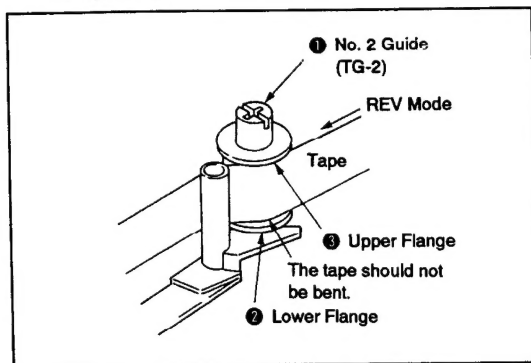

Fig. 4-8.
4-5-2. No. 2 Guide (TG-2) Adjustment (See Figs. 4-8. and 4-9.)
- 2) Confirm that the tape is not bent at the lower flange ② of the No. 2 guide (TG-2) ① (See Fig. 4-8). If it is, turn the upper flange ③ of the No. 2 guide (TG-2) ① clockwise with a screwdriver, lowering it until the tape is straightened.